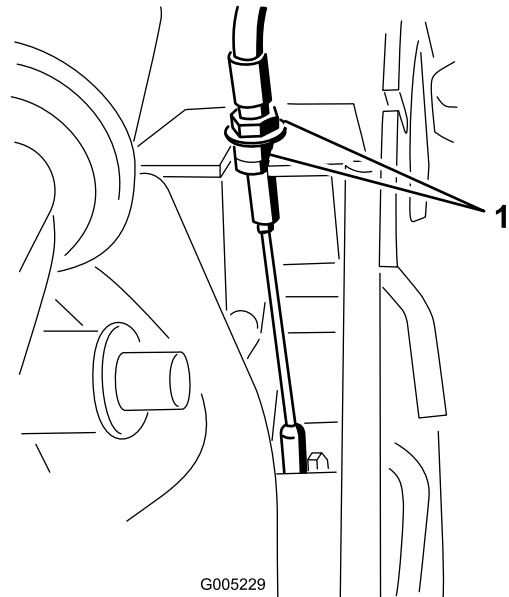

Figure 25
1. If the mower does not self-propel, rotate the transmission cable nuts clockwise 1/2 turn to tighten the belt (Figure 25).
2. If the mower creeps forward, rotate the transmission cable nuts 1/2 turn counterclockwise to loosen the belt (Figure 25).